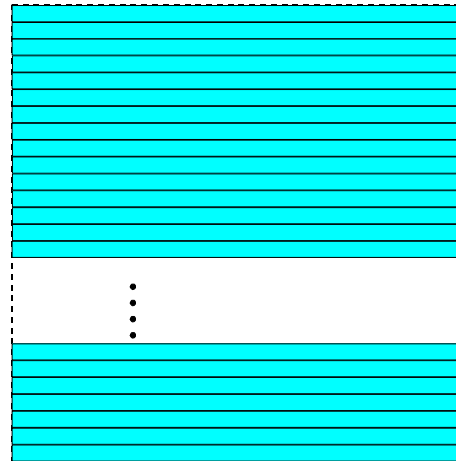

Fig. 61: Decimation Disabled (No Sub-sampling)
- 1: the complete frame will be transmitted out of the camera (no sub-sampling takes place); see Figure 61.